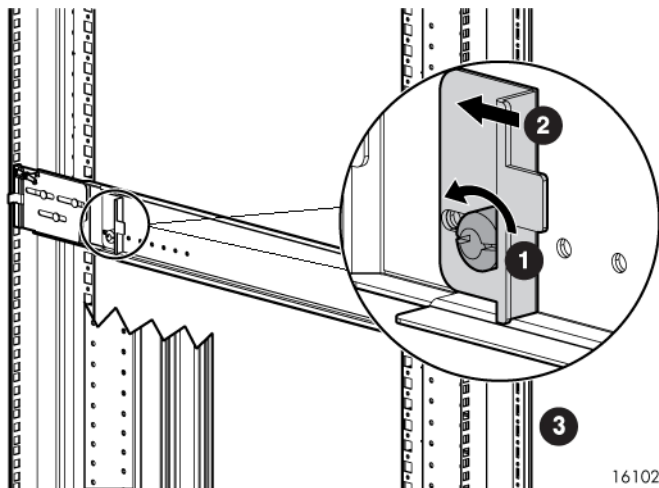

Figure 7 Locking nut and retaining bracket
3. As shown in Figure 7, loosen the locking nut (1) on the shipping retaining bracket (2) and slide the bracket to the farthest position on the rear of the rail. This moves the bracket out of the way to allow you to install the chassis in the rails.
Figure 7 shows a drive enclosure rail and bracket. If you are installing a longer chassis into your cabinet, such as for a controller enclosure, see Attach the brackets for a longer chassis for additional information.